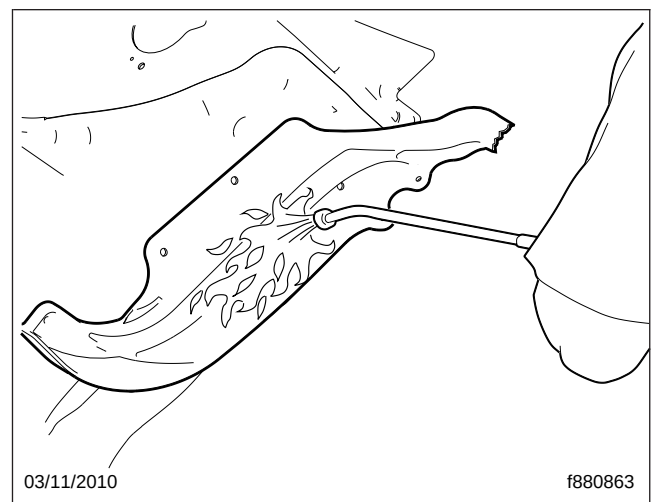

Fig. 2, Heating Pivot Bracket
8. Using a torch, heat the part of the bracket that is attached to the hood. At 350°F (175°C) the adhesive will become soft. Pry the bracket loose from the hood. See Fig. 2.